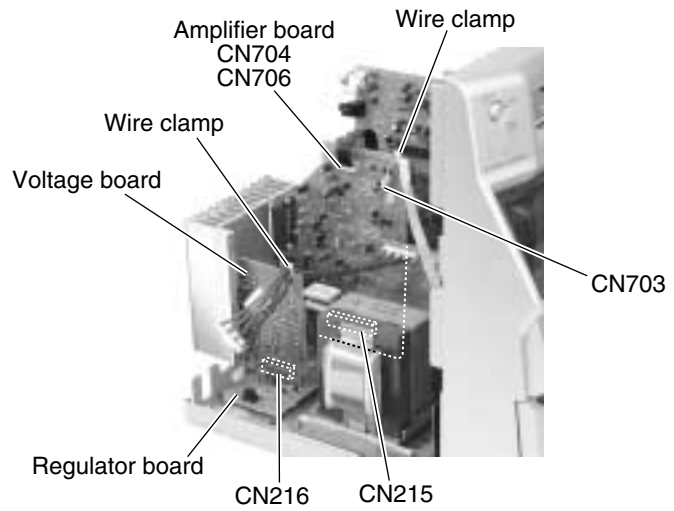

Fig.21
■ **Removing the amplifier board / voltage board / heat sink (See Fig.21 and 22)**